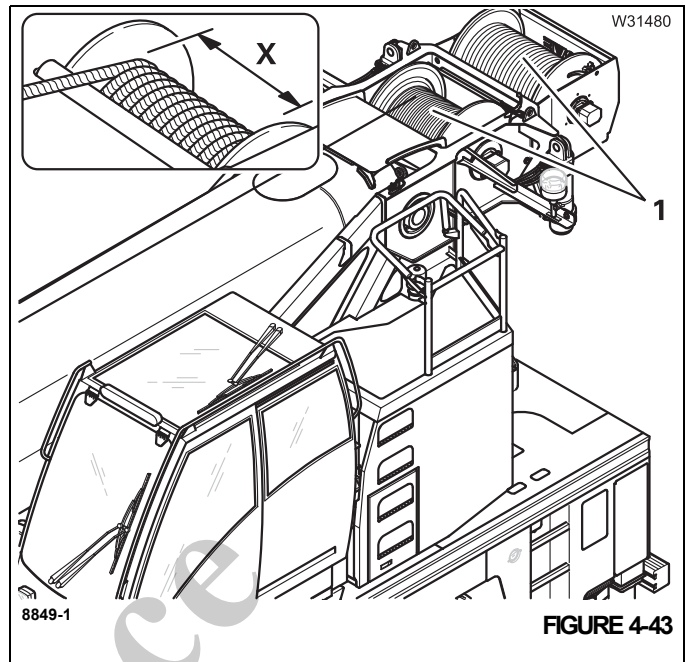

FIGURE 4-43
- When possible check the entire length of the winding of the ropes (1), (Figure 4-43).